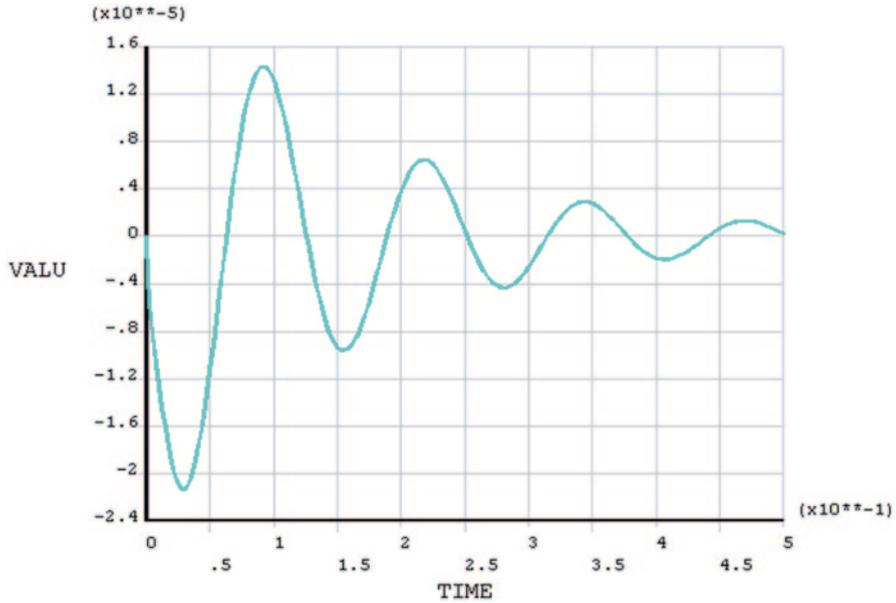

Fig. 8.99 Time variation of the y -displacement at the midpoint when damping is included in the analysis
- Review the time-dependent behavior of the y -displacement at the midpoint in the same manner as was done for the case without damping. The corresponding response is given in Fig. 8.99 as it appears in the *Graphics Window*.